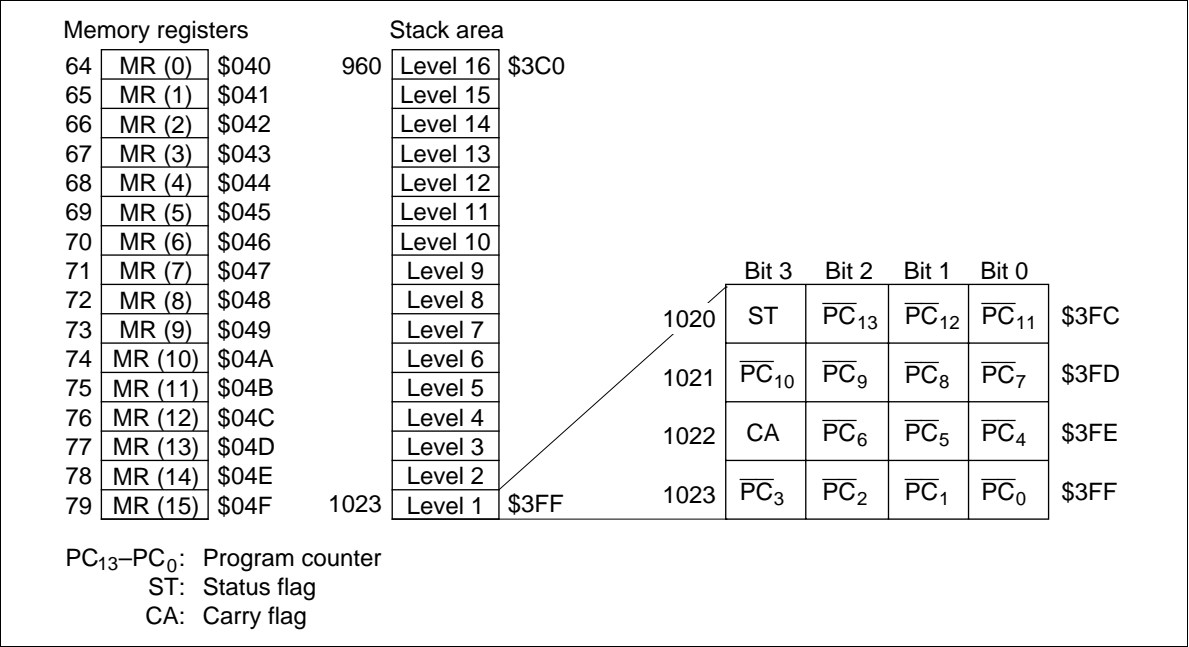

Figure 4 Configuration of Memory Registers and Stack Area, and Stack Position
Data Area (HD404328, HD404328U: \$040–\$04F and \$070–\$11F, HD4074329, HD4074329U: \$040–\$04F and \$070–\$21F): The memory registers (MR), which consist of 16 digits (\$040–\$04F), can be accessed by the LAMR and XMRA instructions. Its structure is shown in figure 4.
Stack Area (\$3C0–\$3FF): Used for saving the contents of the program counter (PC), status flag (ST), and carry flag (CA) at subroutine calls (CAL, CALL) and interrupts. This area can be used as a 16-level nesting subroutine stack in which one level requires four digits. The data to be saved and the save conditions are shown in figure 4.